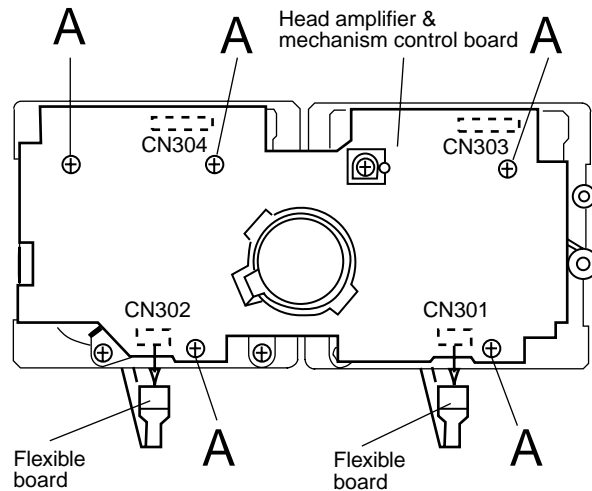

Fig. 4
■ Removing the Head Amplifier and Mechanism Control P.C. Board (See Fig. 4)